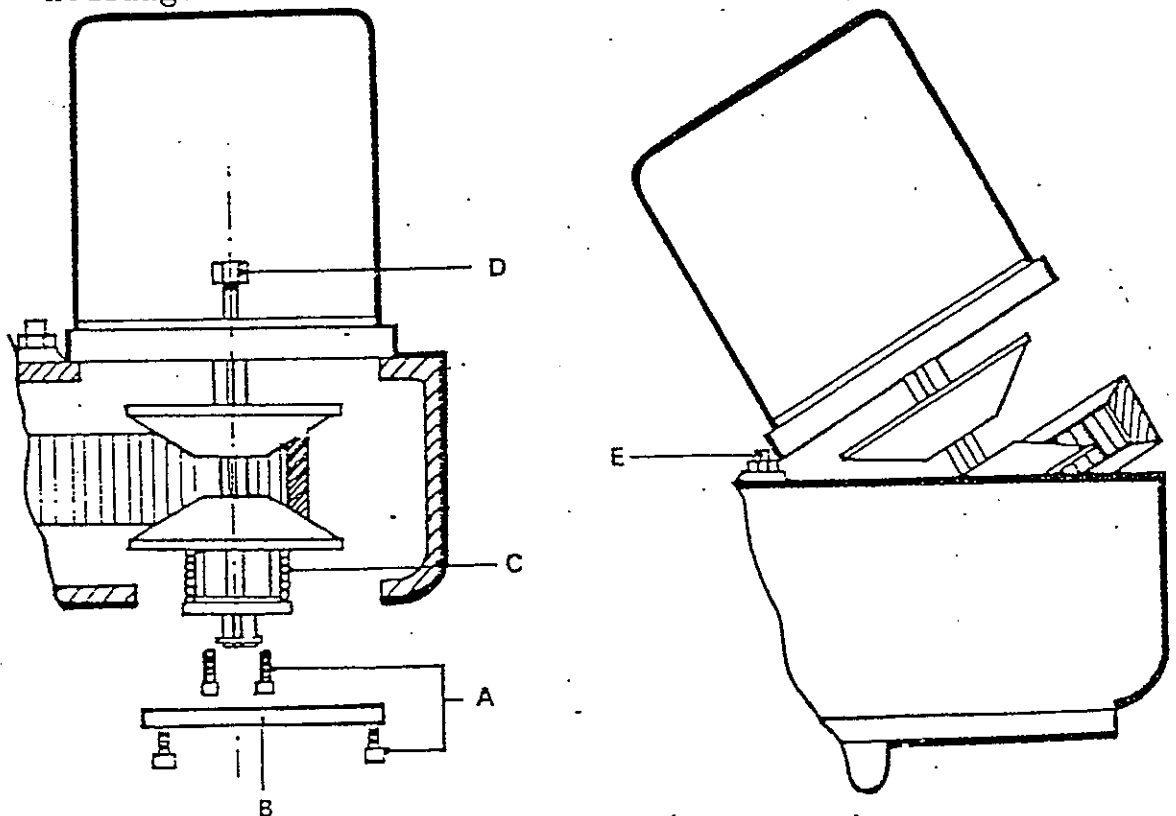

Figure 3. Removing the Motor (Side View)
2. Remove the cover (B, Figure 3) at the lower end of the motor shaft. Use two cover screws (A) to fasten the spring (C) on the lower end of the motor shaft to the lower motor vari-drive pulley. This will reduce the hazard of personal injury that is always present when a heavy spring is under compression. When the pulley, spring retainer, and spring are securely fastened as a single unit, crank the speed change handwheel to the top speed position.
3. Now remove the screws (D) that fasten the motor to the belt housing. The motor should be lifted slightly and pulled firmly away from the spindle and toward the rear of the belt housing. This will pull the vari-drive belt deeply into the spindle pulley providing the slack needed to slip the belt over the motor pulley.
4. Now lift the motor high enough to rest the motor base GENTLY on the adjusting screw (E) seen directly in front of the motor flange. The belt can now be slipped over the lower pulley and the motor removed from the housing.